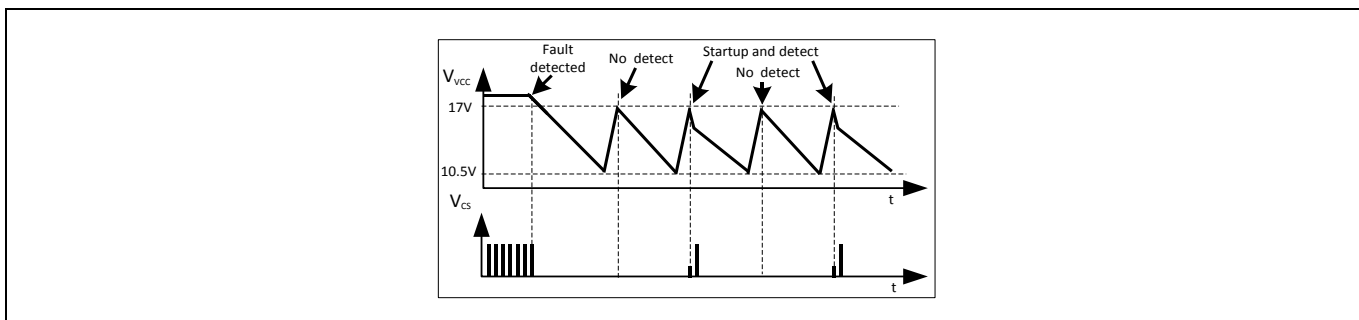

Figure 30 Odd skip auto restart waveform
Odd skip non switch auto restart mode is similar to odd skip auto restart mode except the start up switching pulses are also suppressed at the even number of the restart cycle. The detection of fault still remains at the even number of the restart cycle. When the fault is removed, the IC will resume to normal operation at the even number of the restart cycle (Figure 30).
VCC OVP (1) condition is when  $V_{VCC}$  voltage is  $> 20.5\text{ V}$ ,  $V_{FBB}$  voltage is  $> 4.5\text{ V}$  and during soft start period, the IC enters into odd skip Auto Restart Mode. This condition likely happens during start up at open loop fault (Figure 30).
Vcc OVP (2) condition is when  $V_{VCC}$  voltage is  $> 25.5\text{ V}$ , the IC enters into odd skip Auto Restart Mode (Figure 30).
In case of Overload or Open Loop, the  $V_{FBB}$  voltage exceeds 4.5 V which will be observed by comparator C4. Then the built-in blanking time counter starts to count. When it reaches 20 ms, the extended blanking time counter CT1 is activated. The switch S2 is turned on and the voltage at the BBA pin will be discharged through 500 Ω resistor. When it drops to 0.9 V, the switch S2 is turned off and the Switch S1 is turned on. Then a constant current source  $I_{chg\_EB}$  will start to charge up BBA pin. When the voltage hits 4.5 V which is monitored by comparator C11, the switch S1 is turned off and the count will increase by 1. Then the switch S2 will turn on again and the voltage will drop to 0.9 V and rise to 4.5 V again. The count will then increase by 1 again. When the total count reaches 256, the counter CT1 will stop and it will release a high output signal. When both the input signals at AND gate G5 is high, the odd skip Auto Restart Mode is activated after the 30 μs spike blanking time (Figure 30).